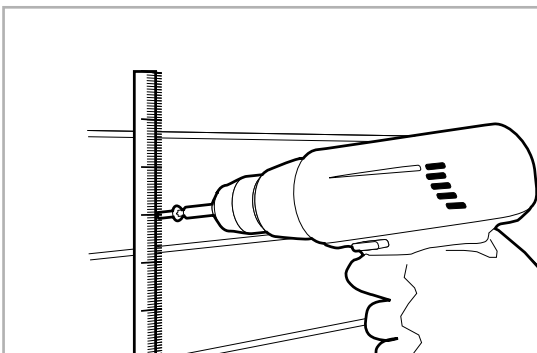

Figure 3.3
2) Attach the heater to the wall with screws. Observe the safety distances between the heater and any inflammable material in accordance with Table 4.4 (see Figure 3.3) when installing the heater.